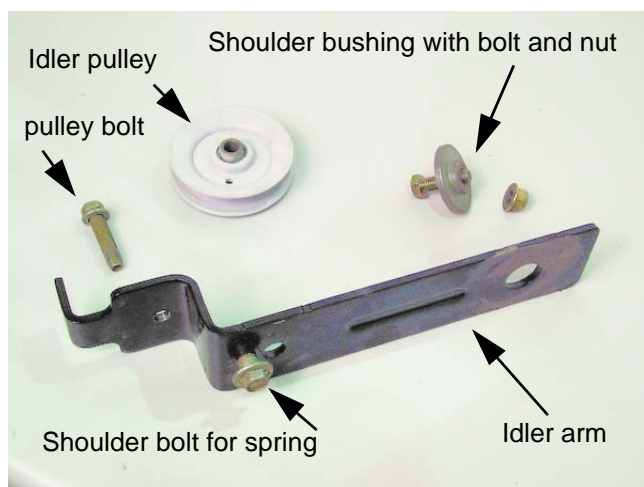

Figure 5.33
3. The arm pivots on a shouldered bushing. See Figure 5.33.